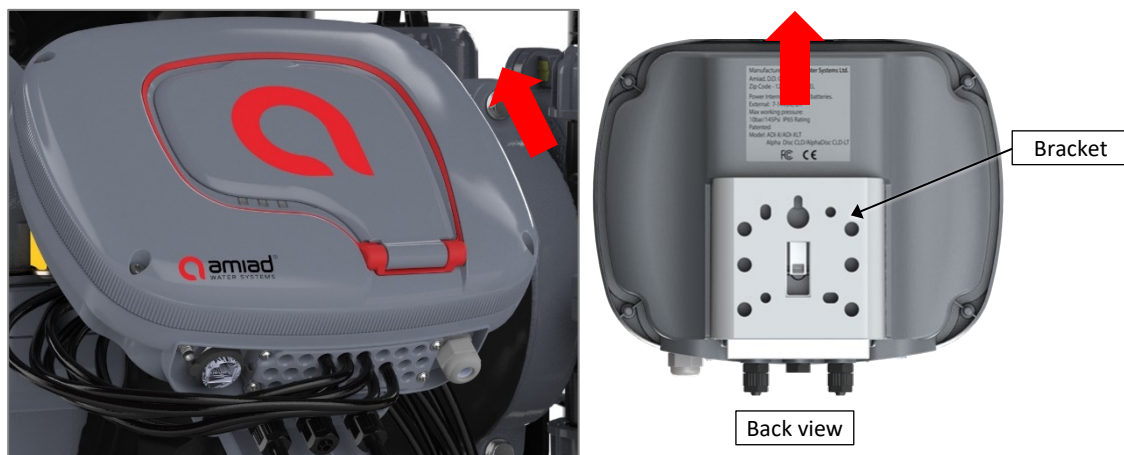

Figure 3: Removing the ADI-X controller from the bracket
2. Remove the controller from the bracket (see Figure 3: Removing the ADI-X controller from the bracket).
2. Remove the controller from its bracket (see Figure 3: Removing the ADI-X controller from the bracket).